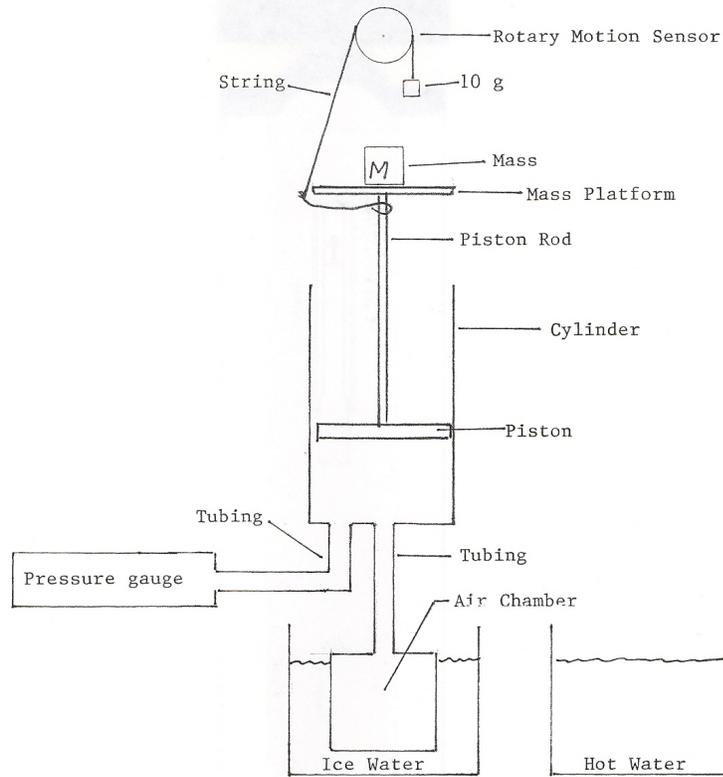

Figure 1: Apparatus Setup
Fig. 1 is a sketch of the apparatus. The heat engine is a precision bore Pyrex cylinder fitted with a graphite piston. There is very little friction between the graphite piston and the cylinder, and air leakage between the piston and cylinder is small but not negligible. One end of a piston rod is attached to the piston and the other end to a platform for adding mass. A piece of string goes from the mass platform to a rotary motion sensor which detects
2. The rotary motion sensor should be plugged into digital channels 1 and 2. In the rotary motion display, set for 1440 divisions/rotation and Large pulley(groove). A string should go around the large grooved pulley with one end attached to a 10 g mass. The other end of the string should be tied to the piston rod and go around the end of the mass platform. See Fig. 1. Open a digits display for the rotary motion sensor with two decimal places. For this sensor select “Position, linpos (cm).”